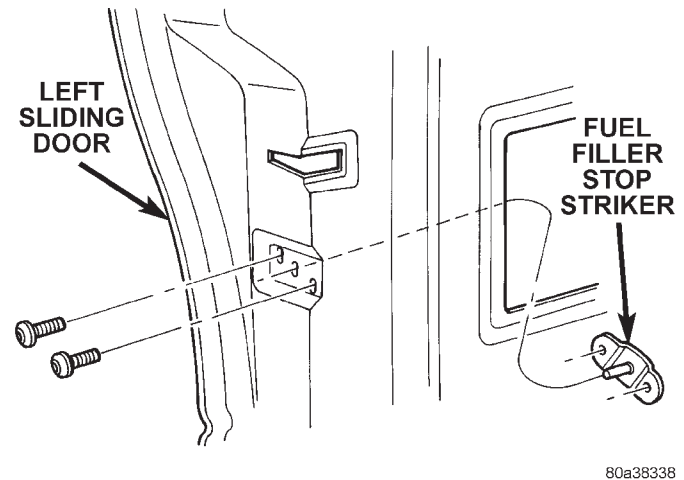

Fig. 37 Fuel Fill Door Blocker Latch Striker
- (1) Remove sliding door trim panel.
- (2) Remove watershield as necessary to access striker
- (3) Remove screws holding fuel fill door blocker latch striker to sliding door rear end frame (Fig. 37).
- (4) Remove fuel fill door blocker latch striker from vehicle.